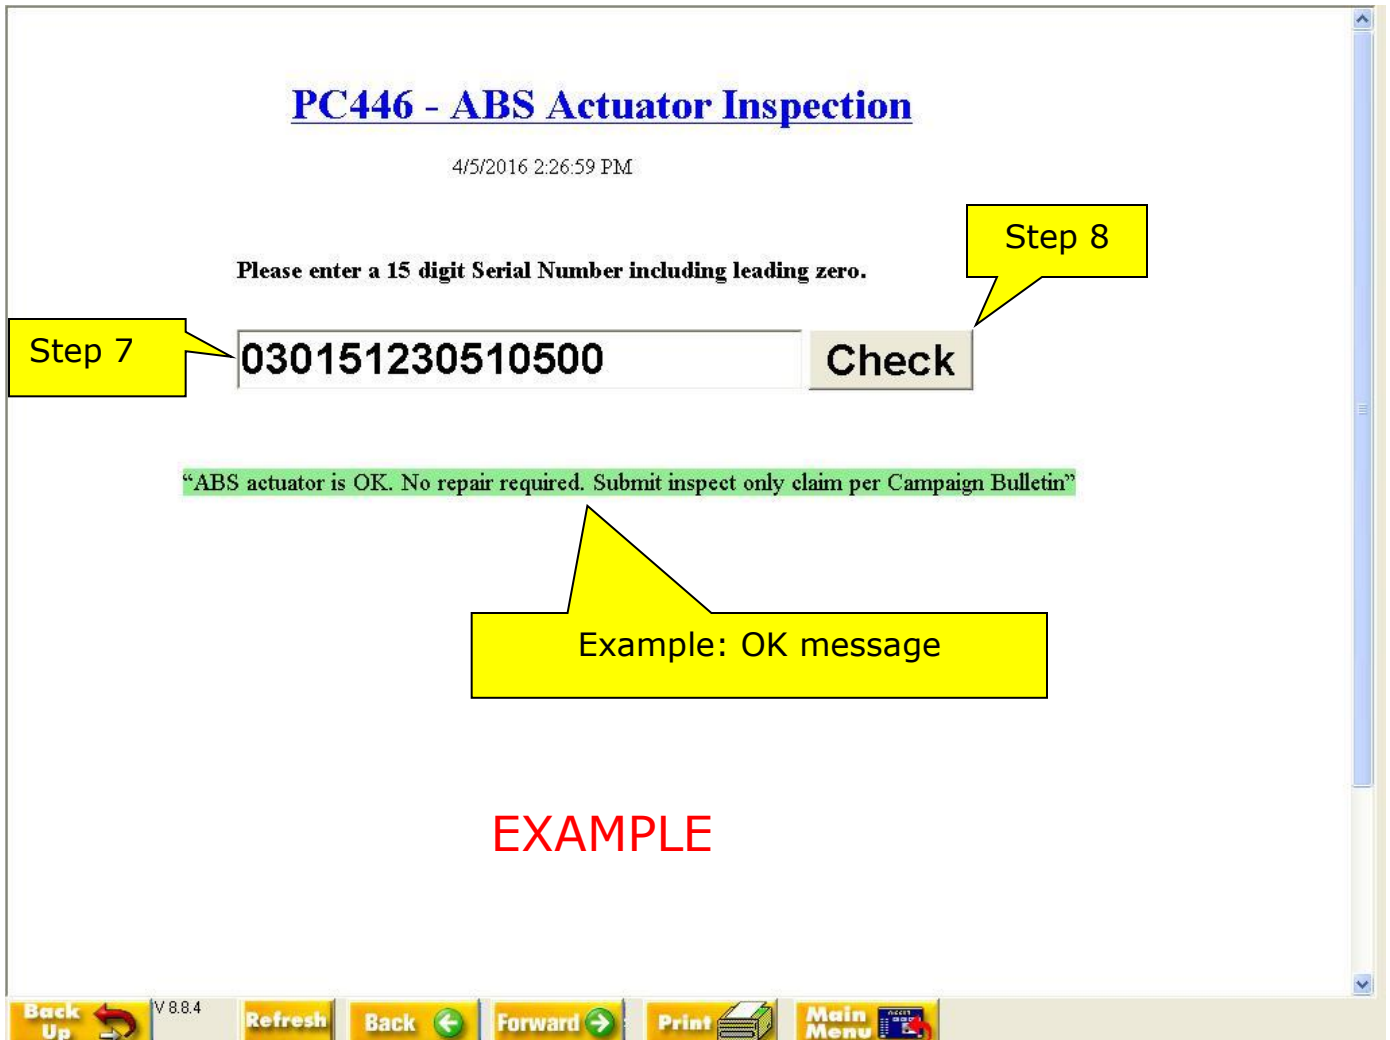

Figure 5
- If the ABS control unit is **OK**, the OK message shown in Figure 5 will display.